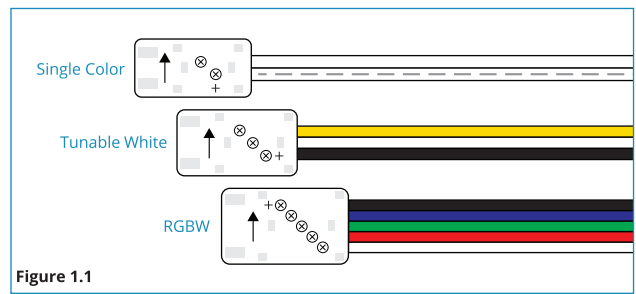

Figure 1.1
1. The terminal connection blocks at each end of the connector are marked with an orientation arrow and a + sign that marks the positive wire of the connector (Figure 1.1).